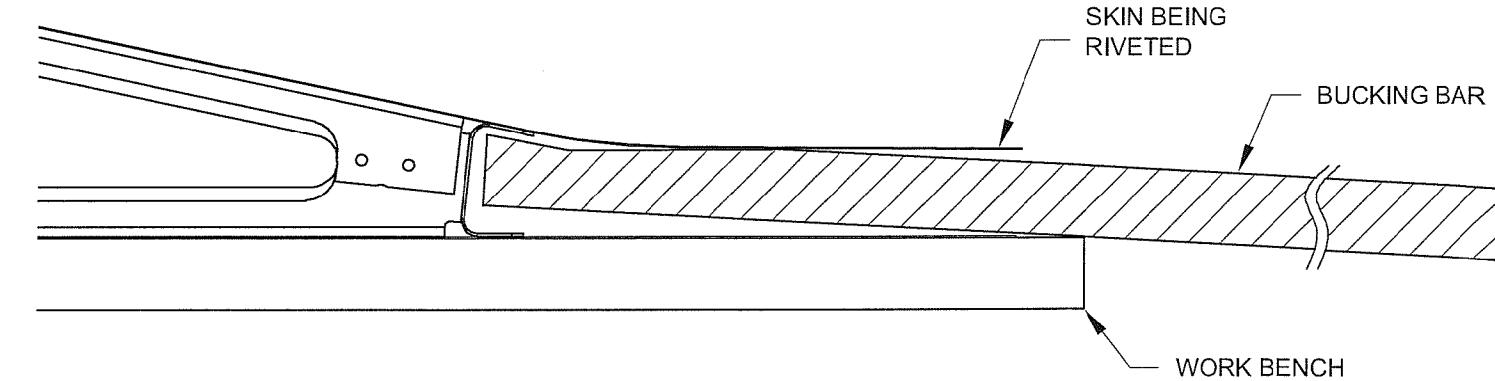
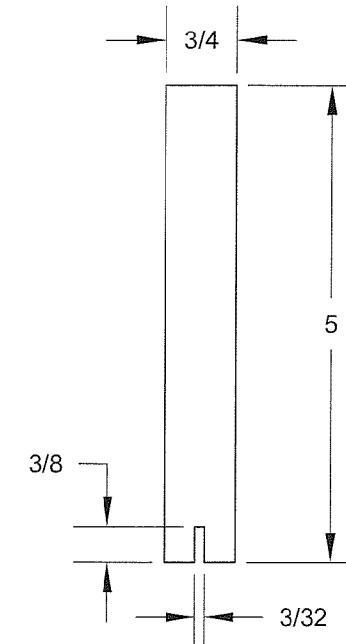

**FIGURE 2: BUCKING BAR DIMENSIONS**
**FIGURE 3: RIVETING THE REAR SPARS TO THE SKINS**
Step 3: Make the bucking bar shown in Figure 2. It should be at least one inch wide.
Step 5: Rivet the second flange of the E-1007 Rear Spar to the E-1001B Bottom Skin of the left elevator. (Rivet the skin of the left elevator first to give you some practice before riveting the more visible top skin on the right elevator.) Position the elevator on the work bench, as shown in Figure 3, with the edge of the work bench extending slightly beyond the elevator trailing edge. Insert the bucking bar made in Step 3 between the skins, and, with the bar resting on the edge of the work bench, rivet the spar to the skin using the rivets called out on Page 9-20, Figure 2.